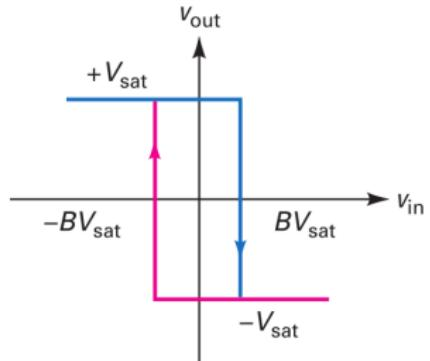

Figure 28: (a) Inverting Schmitt trigger; (b) input/output response has hysteresis.
- ▶ The standard solution for a noisy input is to use a comparator like the one shown in Fig. 28(a).
- ▶ The input voltage must be increased to slightly more than $+BV_{sat}$ to switch the output voltage from positive to negative, as shown in Fig. 28(b).
- ▶ Then, the output switches from negative to positive (Fig. 28(b)).
- ▶ The unusual response of Fig. 28(b) has a useful property called hysteresis.